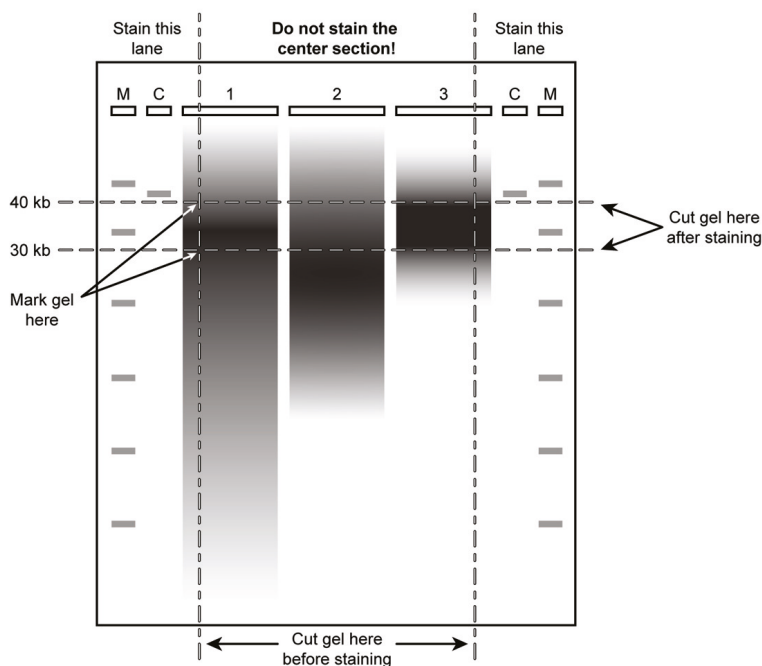

Figure 4. Gel purification of DNA: Keeping ethidium and UV away from your DNA.
If shearing is required, we recommend that at least 2.5 μg (at a concentration of 500 $\text{ng}/\mu\text{L}$) of DNA be used. Randomly shear the DNA by passing it through a 200- μL small-bore pipette tip. Aspirate and expel the DNA from the pipette tip 50-100 times. Examine 1-2 μL of the DNA on a 20-cm agarose gel using the Fosmid Control DNA as a size marker. If 10% or more of the genomic DNA migrates with the Fosmid Control DNA, then proceed to Part B. If >90% of the sheared DNA comigrates with the Fosmid Control DNA and appears as a relatively tight band (as in Fig. 4, lane 3), gel size-selection may not be necessary; you may skip the gel-sizing step and proceed directly with ligation of the DNA to the vector (Part E). If the DNA is still too large, aspirate and expel the DNA from the pipette tip an additional 50 times. Examine 1-2 μL of this DNA by agarose gel electrophoresis as described previously.
If the DNA to be used in the cloning process appears as a long smear (Fig. 4, Lanes 1 and 2), size-select the end-repaired DNA by LMP agarose gel electrophoresis. Ideally, use PFGE with voltage and ramp times recommended by the manufacturer for separation of 10 to 100 kb DNA. If a PFGE apparatus is not available, analyse the sample on a 20 cm long, 1% LMP agarose gel at 30-35 V overnight. **Minigels (e.g. 10 cm) do not provide sufficient resolution of DNA in the 20- to 60-kb size range.**
Fractionate the DNA on an LMP agarose gel. **It is important to perform this electrophoresis in the absence of ethidium bromide (do not add ethidium bromide to the gel). The DNA that will be cloned should not be exposed to UV light under any circumstances.** This can decrease the cloning efficiency by 100-fold or more. A diagram of the recommended method is shown in Fig. 4.
1. Prepare a 1% **LMP** agarose gel in 1X TAE or 1X TBE buffer. Use a wide comb as needed to be able to load sufficient DNA into the gel (see Figure 4).
4. Following electrophoresis, cut off the outer lanes of the gel containing the DNA size markers, the Fosmid Control DNA, and a small portion of the next lane that contains your random sheared end-repaired genomic DNA (see Figure 4).